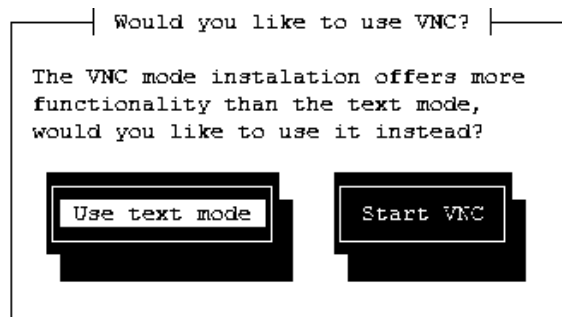

Figure 8-14 Select between VNC or text installation modes panel
10. In this step it is possible to start a *Virtual Network Computing* (VNC) server and continue the installation from Anaconda's graphical interface, but for this example we'll continue with the text mode interface, as shown in Figure 8-14.